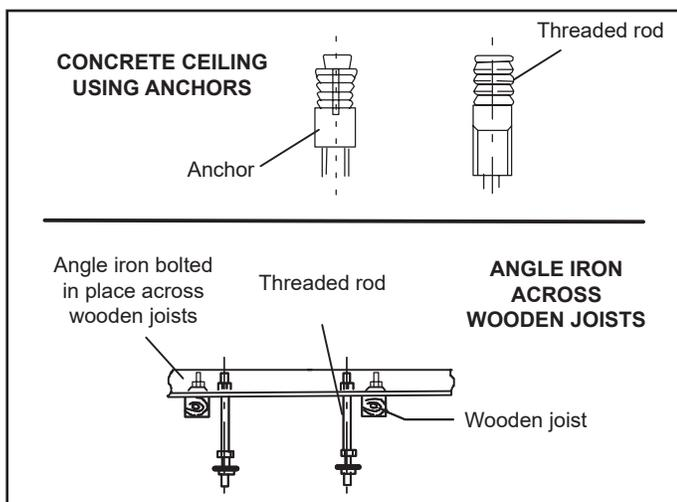

Figure 3. Locate Threaded Rods
- If the structural ceiling is constructed of concrete, install anchors to accept four $\frac{3}{8}$ " threaded rods to suspend the indoor unit. If the structural ceiling includes wooden joists, use angle iron or Unistrut channel fixed securely in place to accept the $\frac{3}{8}$ " threaded rods. See Figure 3.